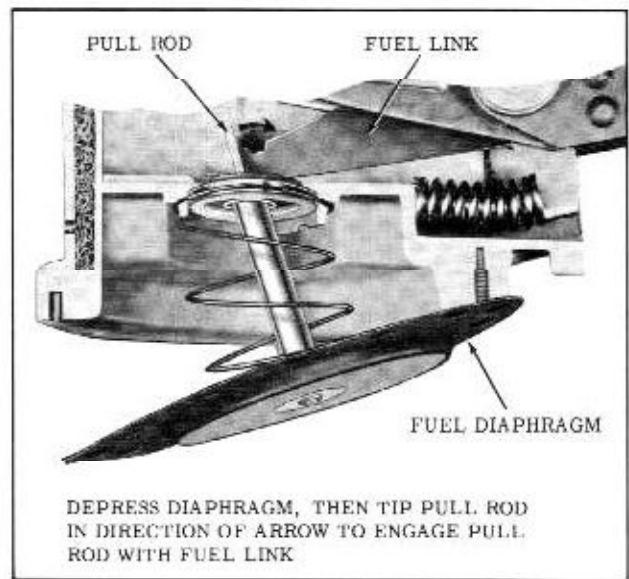

Fig. 8-72 Engaging Pull Rod With Fuel Link
3. While holding the pump with vacuum side up, tilt diaphragm up on side opposite rocker arm until pull rod engages fuel link. (Fig. 8-72)